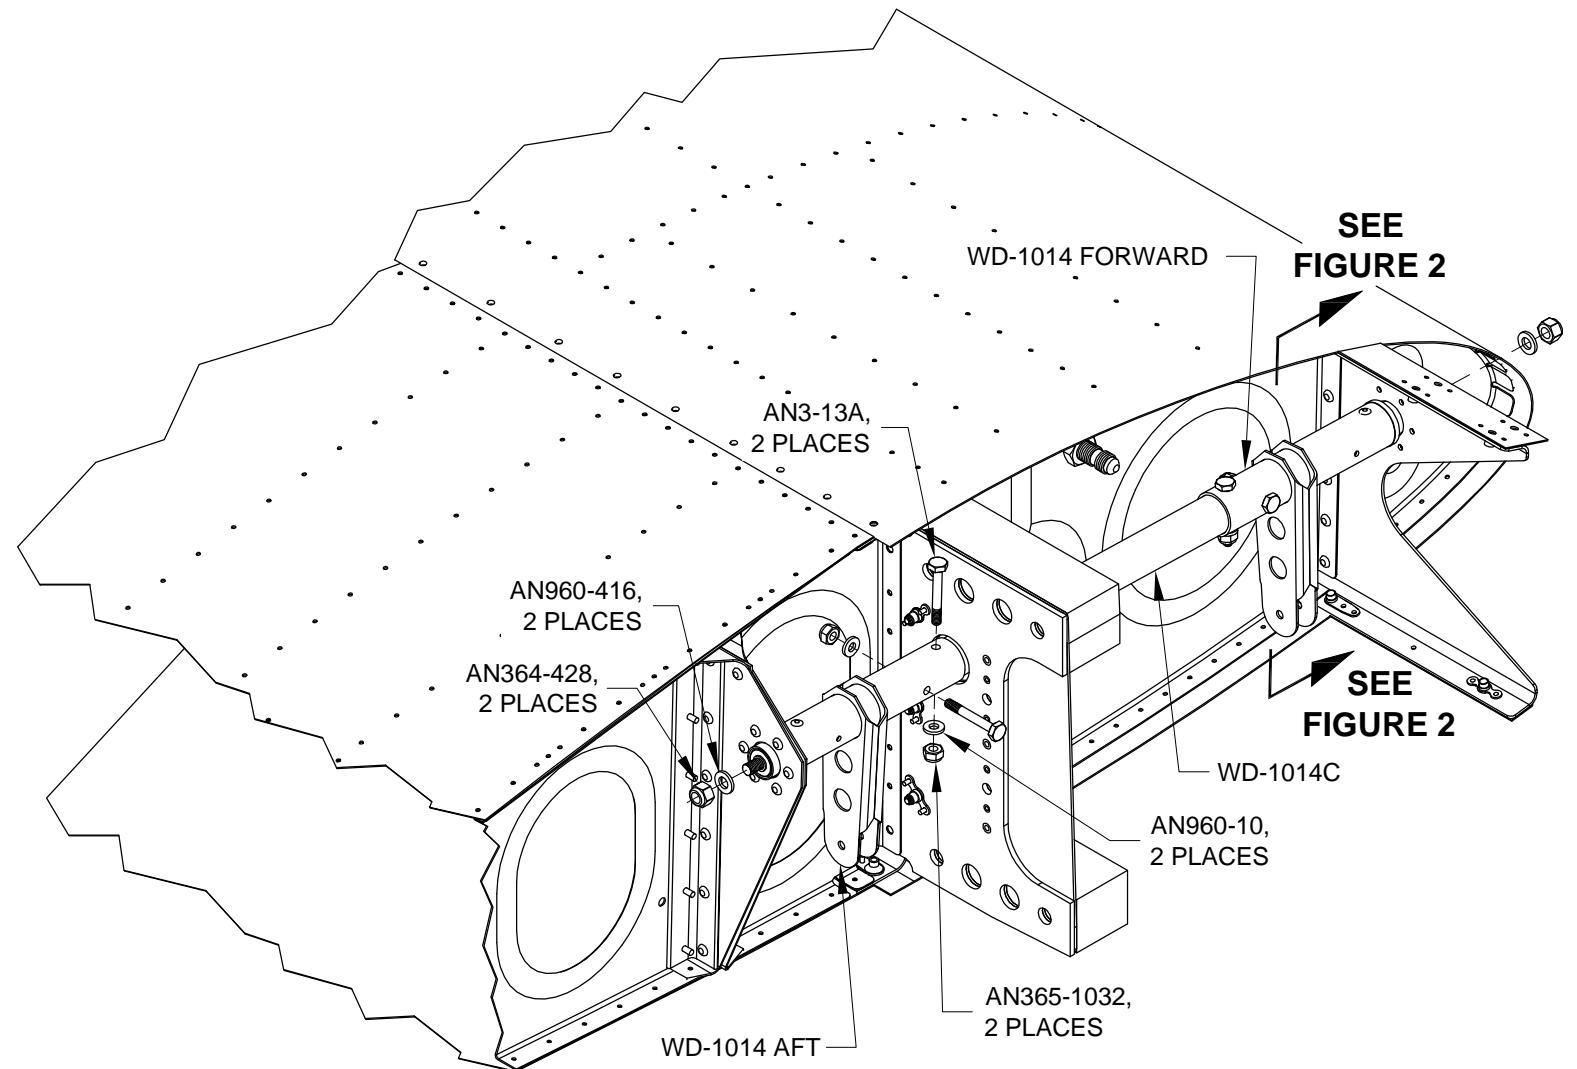

FIGURE 1:
Step 3: Install washers and nuts on the WD-1014 FORWARD and WD-1014 AFT Torque Tube Subassemblies as shown in Figure 1.
Install bolts, washers, and nuts as shown in Figure 1 to attach the aft torque tube subassembly to the torque tube collar.